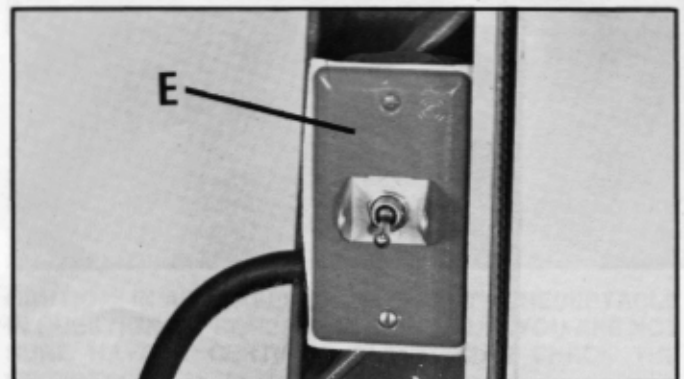

Fig. 13
5. Fig. 13, illustrates the switch box (E) assembled to the band saw arm.